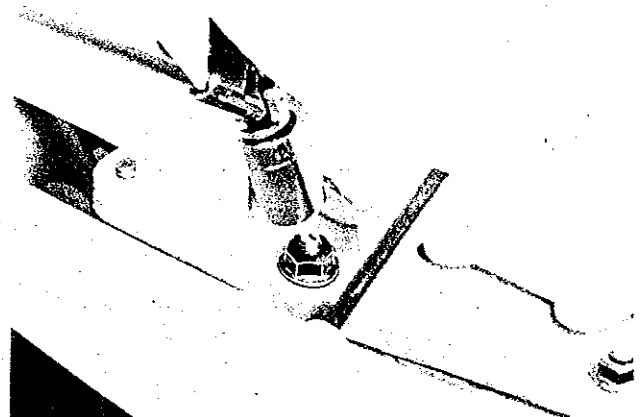

Figure 20
- (3) Disconnect the fuel line from the carburetor.
- (4) Disconnect ground wires from stop switch. (Stop switch not used in models manufactured after 1975.)
- (5) Remove the four flange nuts and two washer head screws that secure the top adaptor plate to the lower adaptor plate (Figure 20).
- (6) Lift the engine and top adaptor plate off the column.
- (7) Remove the four 12-point screws and two slotted head screws to remove the top adaptor plate from the engine.